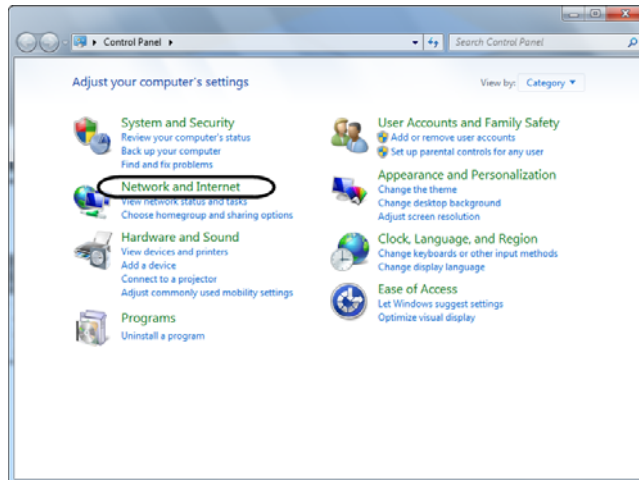

Figure 64
2. Click on the **Network and Internet** link (Figure 64).